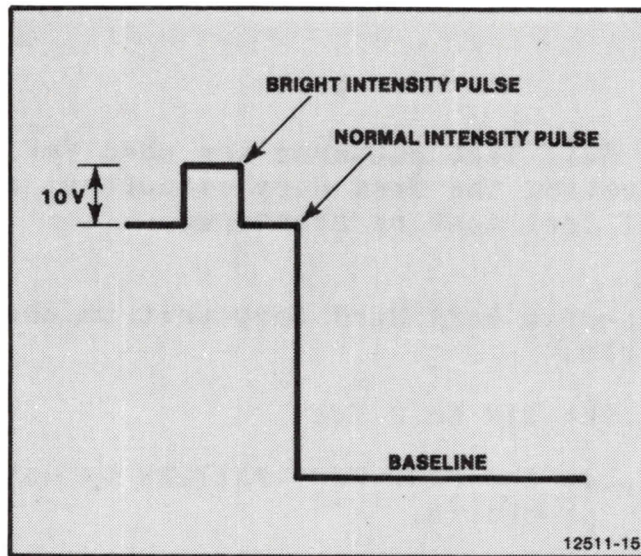

Figure 10-24. Brite Intensity Pulse.
2. Adjust R415 (the Brite Intensity control, at the lower center of the HV & Z Axis board) to 10 V higher than the NORMAL INTENSITY adjustment. This can be measured at R246 on the High Voltage and Z Axis board, the same place that normal intensity was measured. See Figure 10-24.